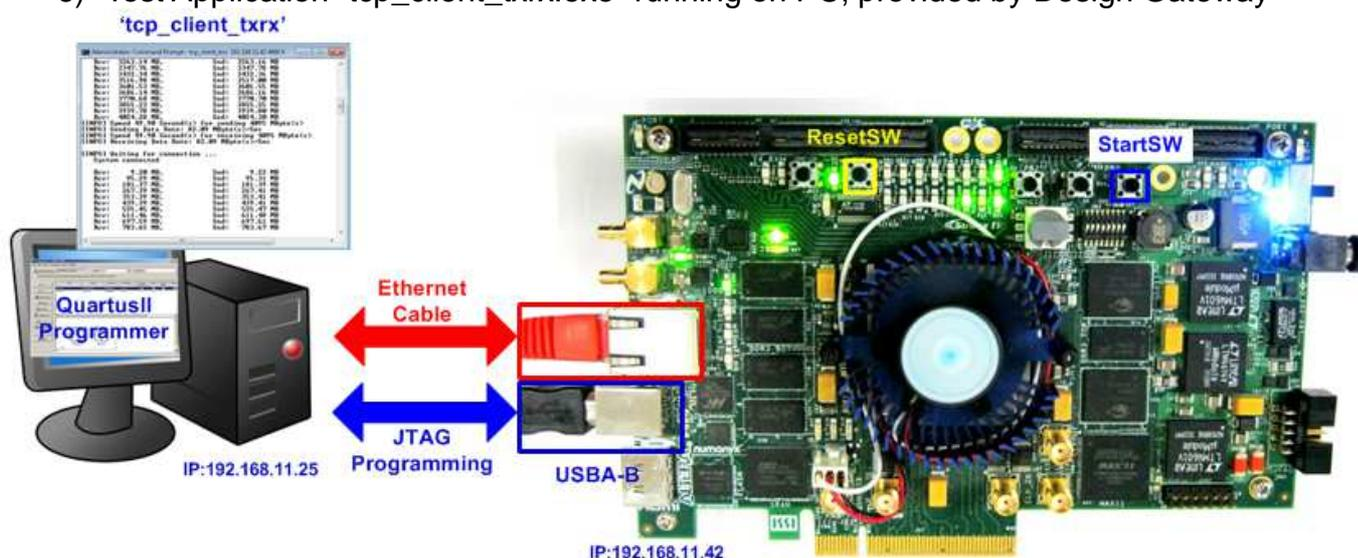
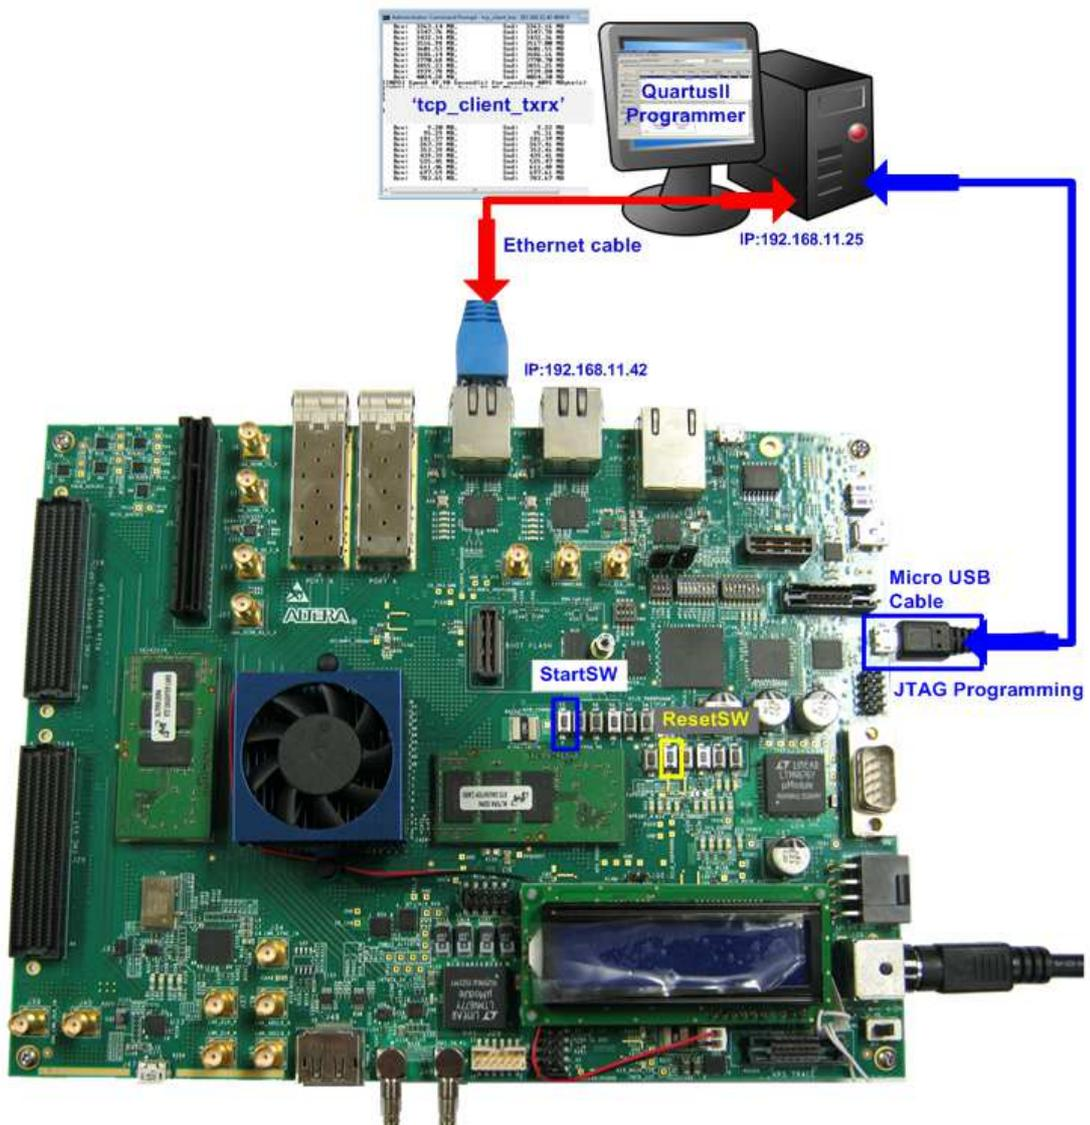
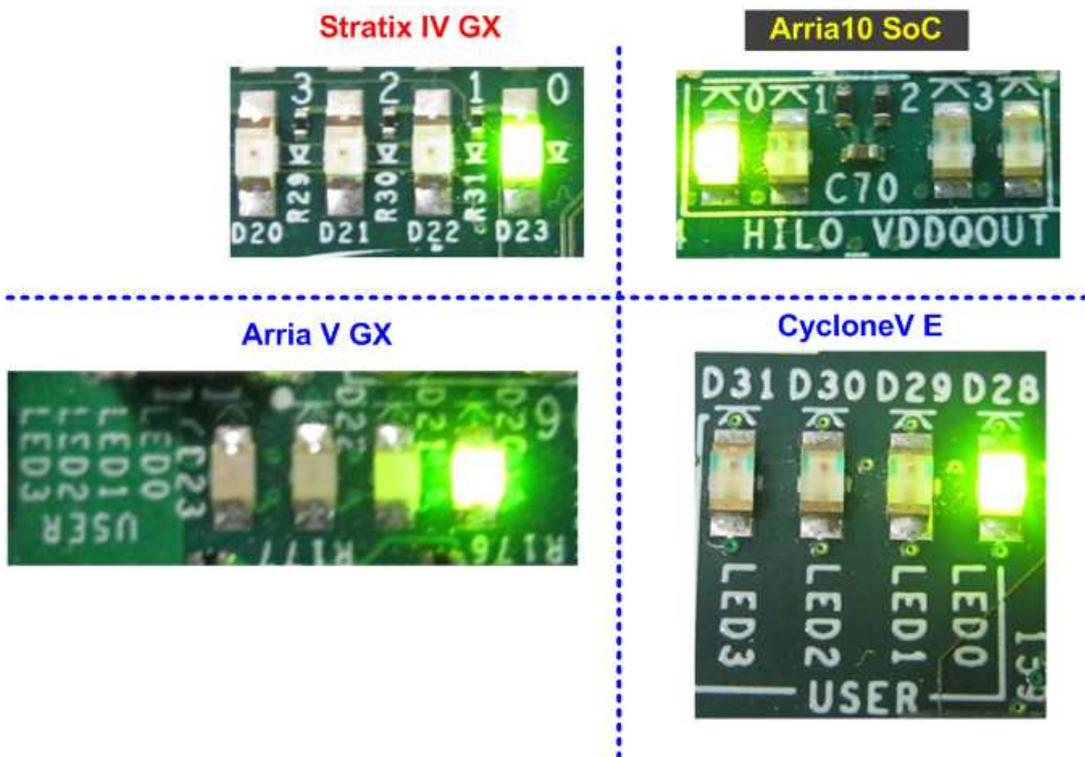

Figure 1-1 TOE1G-IP Full Duplex Demo Environment Setup on StratixIV GX board
Figure 1-4 TOE1G-IP Full Duplex Demo Environment Setup on Arria10 SoC board
Figure 4-3 LED Status after press StartSW
As shown in Figure 1-1- Figure 1-4, to run TOE1G-IP full duplex demo, please prepare
- Press StartSW as shown in Figure 1-1 - Figure 1-4 to initialize system parameter, and then LED0 will turn on, as shown in Figure 4-3. Now system is ready to transfer data.